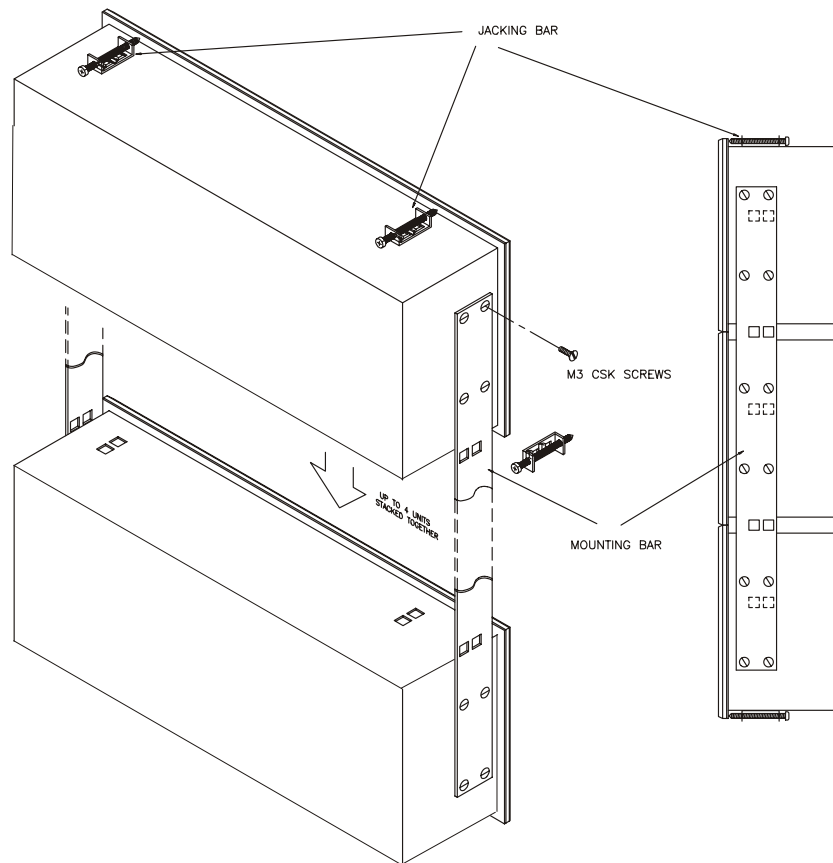

Figure 2-6 Vertical Stacking Arrangement.
Up to 4 Omni8c's or Omni16c's may be stacked together into a single column, as shown in Figure 2-6 Vertical Stacking Arrangement. Omni8c's and Omni16c's may not be mixed in the same vertical stack.
2. Mount the pre-assembled vertical stacks of Omni8/16c's side-by-side in the panel cut-out by using 4 jacking bars per stack, as shown in Figure 2-6 Vertical Stacking Arrangement.